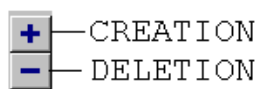

Figure 8 : CREATION-DELETION TOOLBAR
- click on the *creation* button (Figure 8).
- click on the *deletion* button (Figure 8).
In this window, you can create or delete bulkheads using the *creation* or the *deletion* buttons (Figure 8). Identification, a type and material define each bulkhead. Moreover you can enter the stiffeners location as regards compartments near to bulkhead and the secondary stiffeners direction.
The *creation* and the *deletion* buttons (Figure 8) allow you to create or delete primary stiffeners.